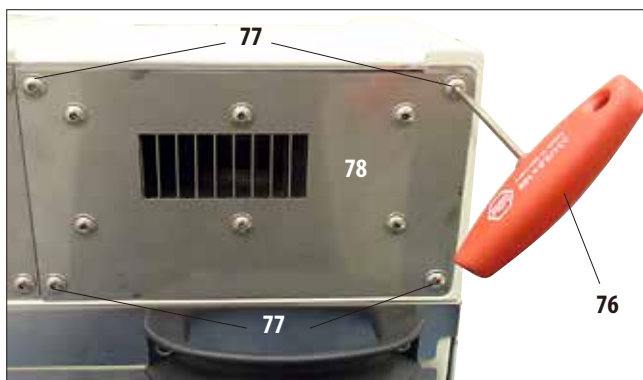

Fig. 22
- Use a No. 3 Allen key (76) to loosen and unscrew the four hexagon socket screws (77) on the rear cover of the instrument (Fig. 22).
- Make sure that you do not remove the fan plate (78); the plate **MUST** remain under the flange.
- Attach the exhaust flange (75) to the fan plate (78 in Fig. 22) and fasten it using the screws that held the plate.
- First, screw in all four screws (77) loosely, then tighten them crosswise with the No. 3 Allen key (76) at a torque of 0.5 Nm (Figs. 22, 23). Make sure that the fan plate and the flange are flush against each other.